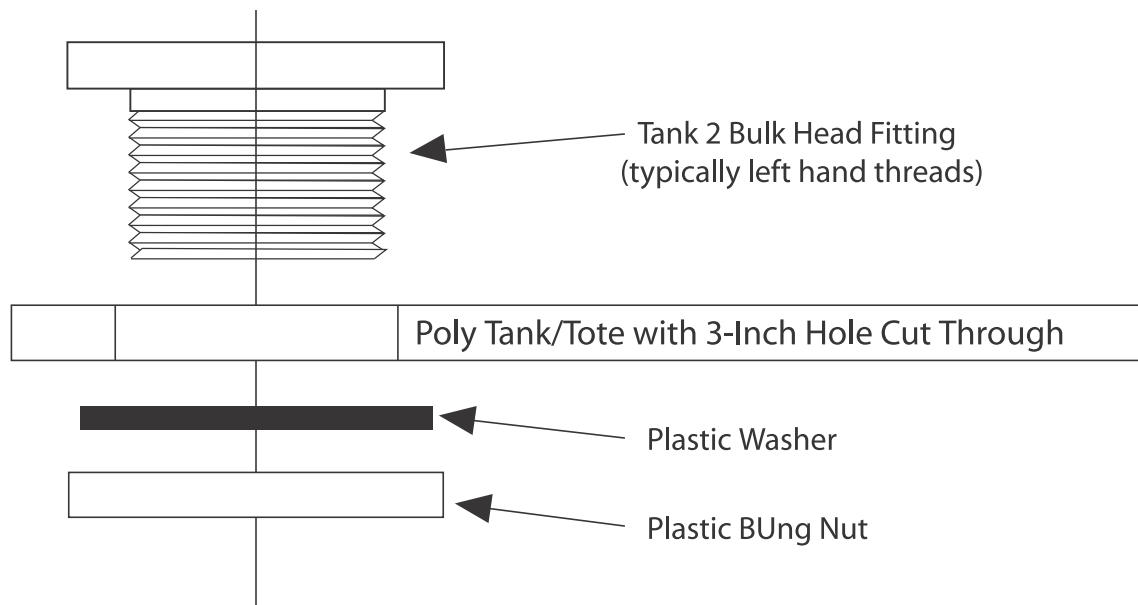

Figure 6. Plastic Bung Kit Installation
- 5) The 2-inch plastic bung kit may now be installed. The bung need only be tightened by hand. Refer to Figure 6 for proper assembly.